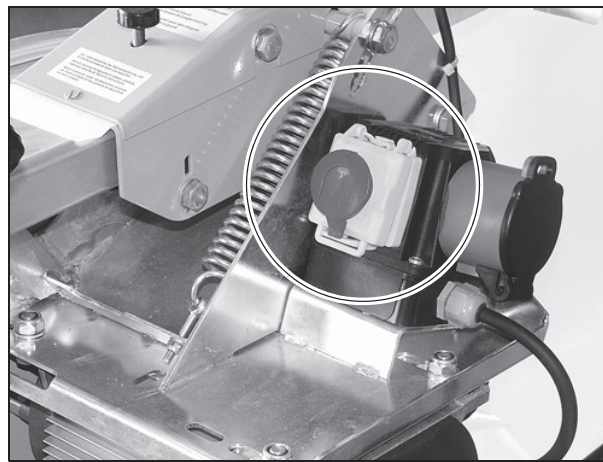

Fig. 3.6 Mains switch with emergency stop button
The mains switch (fig. 3.6) switches the wet-pit pump and blade drive motor on and off.
- While the saw is operating, the buttons are covered by the flap (fig. 3.6). This allows the operator to quickly stop the saw by pushing the emergency stop button in the event that a danger or fault condition occurs. To unlock the red emergency stop button, push the button upwards until the lid springs open.